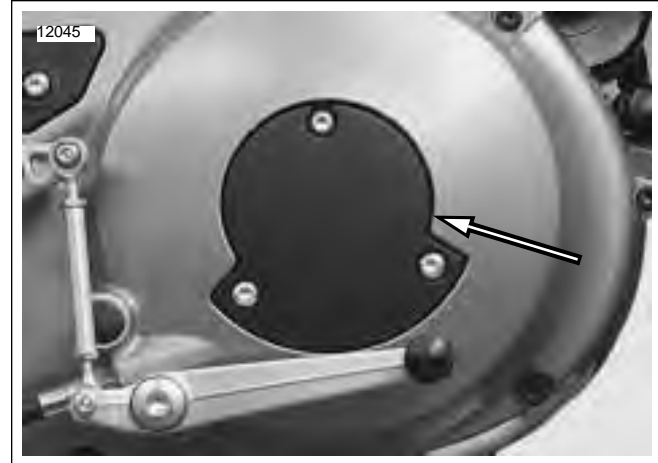

Figure 1-25. Clutch Inspection Cover
8. See Figure 1-25. Install clutch inspection cover tightening three fasteners and washers to 84-108 **in-lbs** (10-12 Nm).
3. See Figure 1-25. Remove three fasteners and washers from clutch inspection cover. Remove clutch inspection cover and gasket from primary cover.
8. See Figure 1-25. Install clutch inspection cover and **new** gasket using three fasteners and washers and tighten to 84-108 **in-lbs** (10-12 Nm).